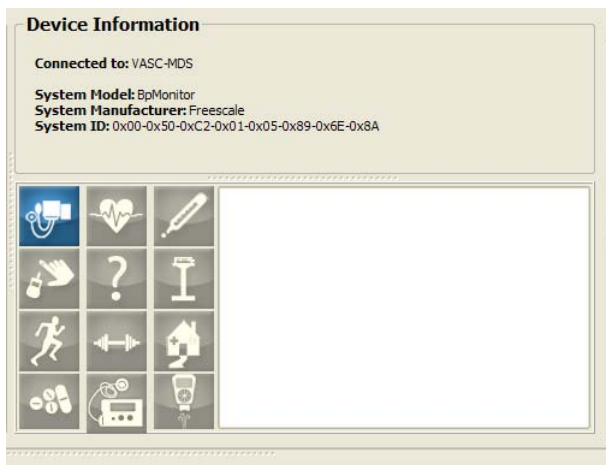

Figure 23. ZHC Blood Pressure Monitor Connected to Continua GUI
9. When the ZHC tunnel is created, the connection is automatically forwarded to the Continua Manager GUI over a TCP/IP link. The agent appears as connected and then associates to the CESL manager as shown in Figure 23.